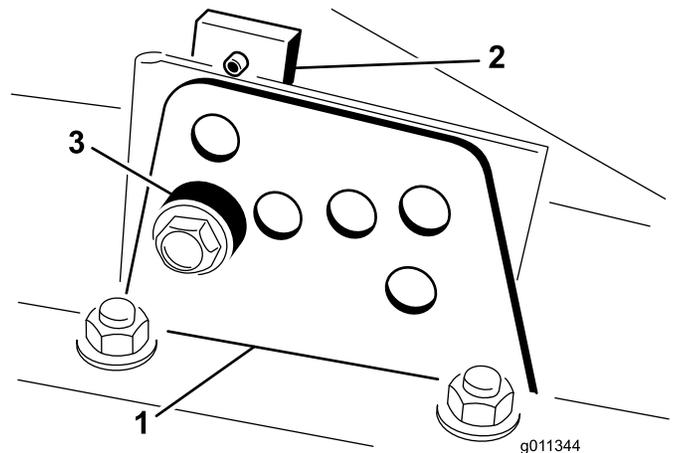

Figure 12
2. Loosen the bolt securing each height of cut bracket to the height of cut plate (front and each side) as shown in Figure 12.